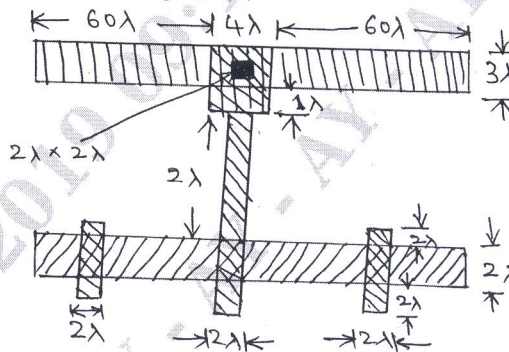

Fig.Q4(b)
- Find the C_{in} for the layout shown in Fig.Q4(b).